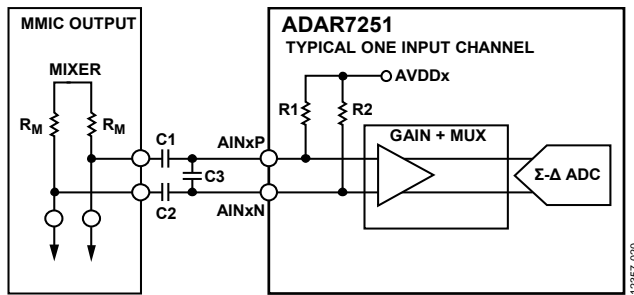

Figure 29. Typical Differential Input Channel Configuration
The ADAR7251 main ADC input channel consists of an LNA, a PGA, a continuous time Σ - Δ ADC, and internal bias resistors that set the common-mode voltage on the input of the LNA. The PGA includes an equalizer (EQ) function that gains up low amplitude, high frequency signals. Typically, in an automotive radar application, the analog inputs of the ADAR7251 connect directly to the mixer output (See Figure 29). If additional external filtering is required, the external C1, C2, and C3 capacitors can be used. These capacitors, together with the R1, R2, and the mixer output impedance, create an external filter that removes dc components and high frequency noise from the ADC inputs.
where $R1 = R2$ (typical) is 2.86 k Ω and $C2 = C1$ (see Figure 29).